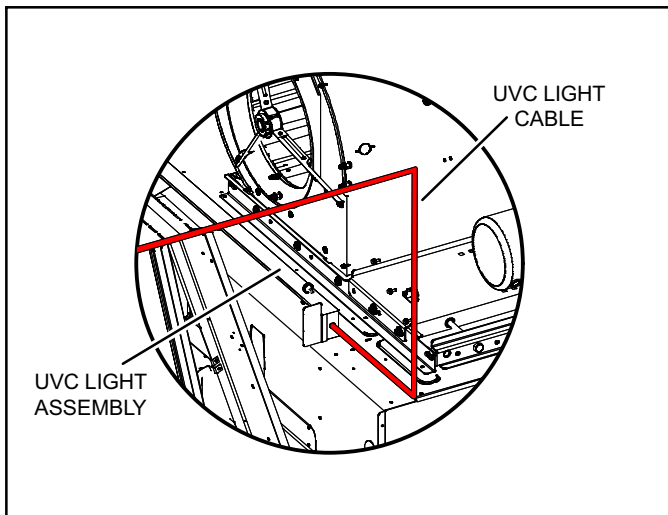

Figure 4. Installing Lamp Cable
1. Run the UVC cable along the limit switch wire harness (see figure 4).